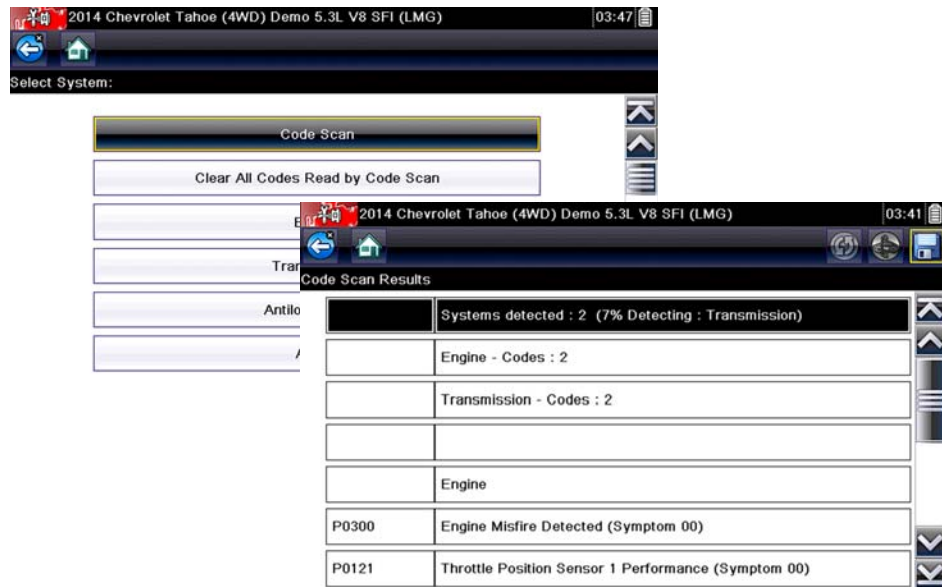

Figure 4-10 Code Scan systems analyzed result total
Depending on the vehicle, Code Scan (if supported) may be available from the Systems menu. Selecting **Code Scan** starts an active scan of vehicle control modules, and opens the Code Scan results screen (Figure 4-10). A progress indicator is shown at the top indicating the active scanning progress. Once completed, the results are displayed by system category.
- **The total number of systems (modules) detected** (Figure 4-10).